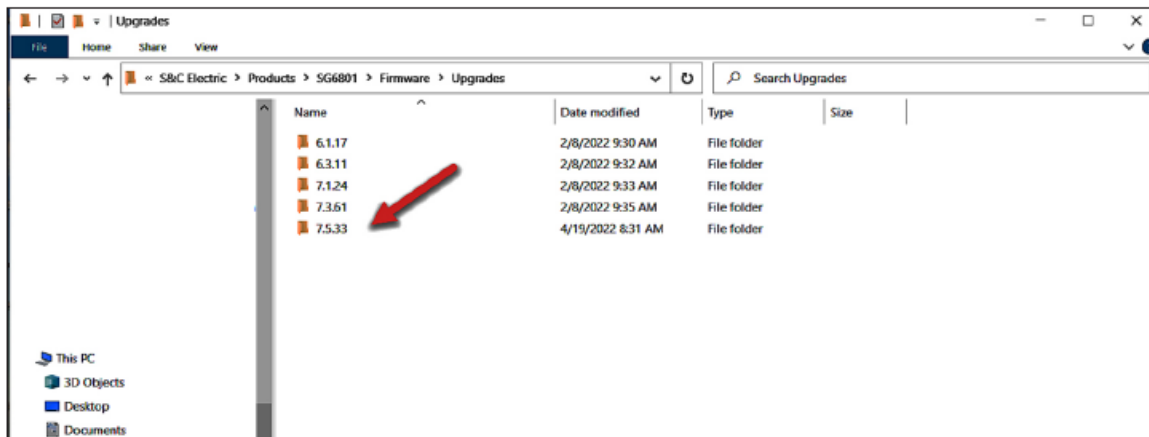

Figure 29. The C:\Program Files (x86)\S&C Electric\Products\SG6801\Firmware\Upgrades dialog box.
- **STEP 6.** Open the Windows File Explorer screen and navigate to the program folder C:\Program Files (x86)\S&C Electric\Products\SG6801\Firmware\Upgrades. See Figure 29. Delete any folders that have a version number later than the target downgrade version.